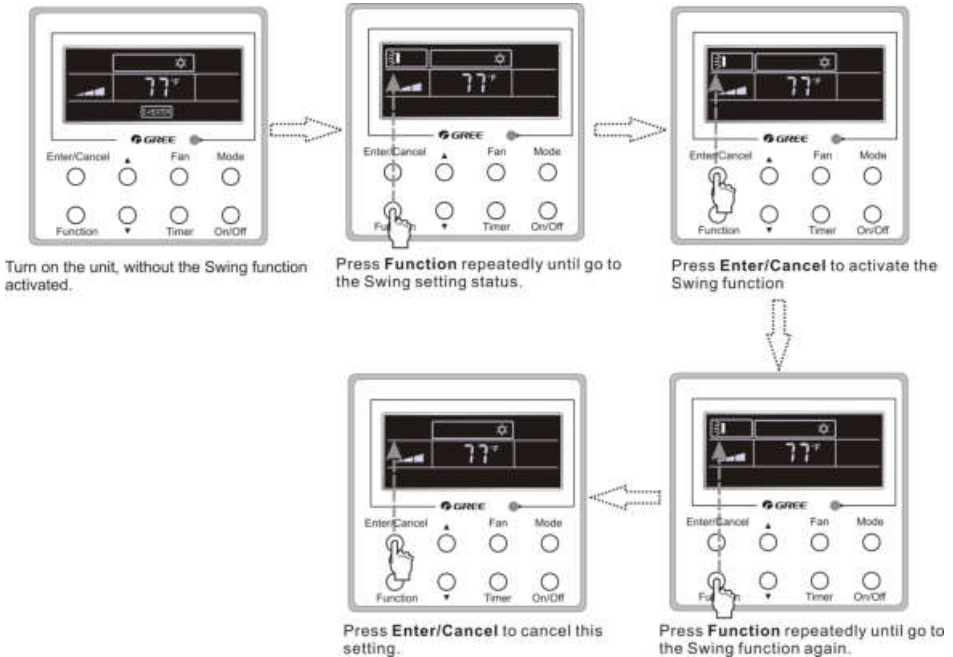

Fig.3.6.1 Swing Setting
**Swing Off:** When the Swing function is on, press **Function** to enter the Swing setting interface, with  blinking. After that, press Enter/Cancel to cancel this function. Swing setting is shown as Fig.3.6.1.